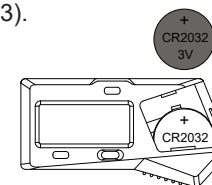

fig.2
---Put CR2032 battery into battery house, the positive side of battery (+) should face out (fig.2).